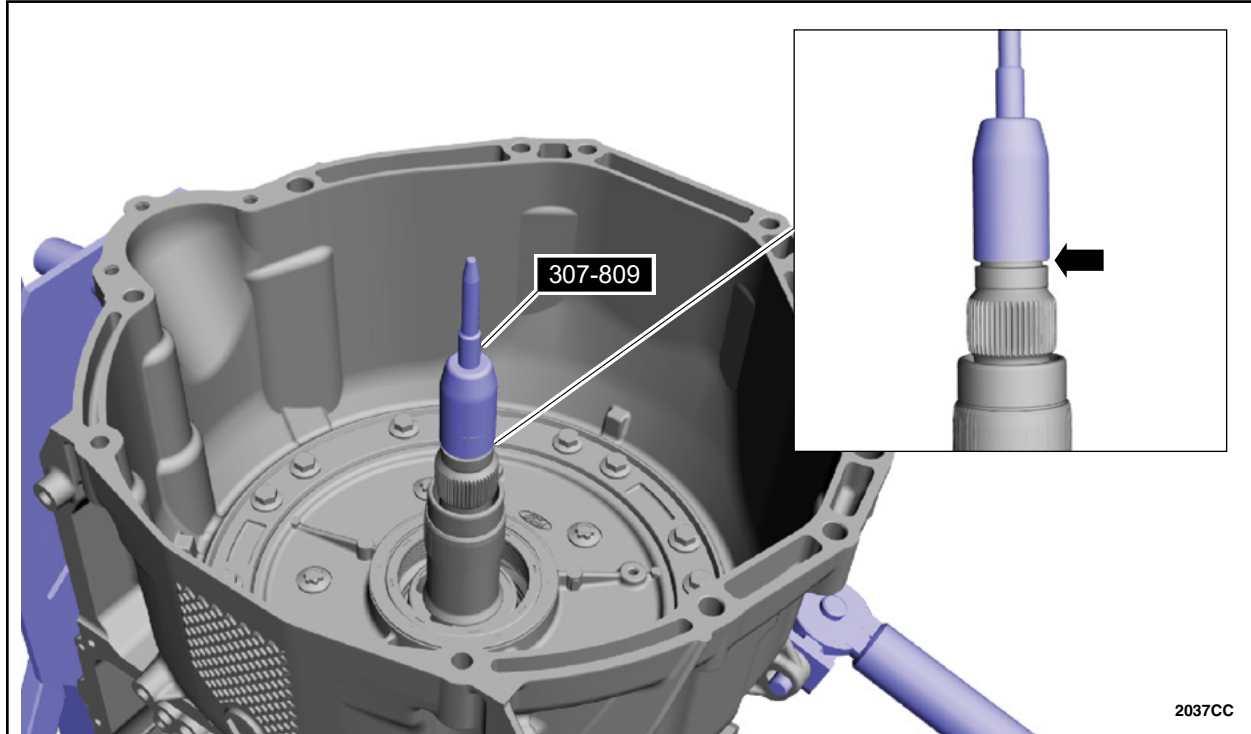

**FIGURE 21**
23. Install special tool 307-811 to size the 7 Teflon® seals to the input shaft. See Figure 21.